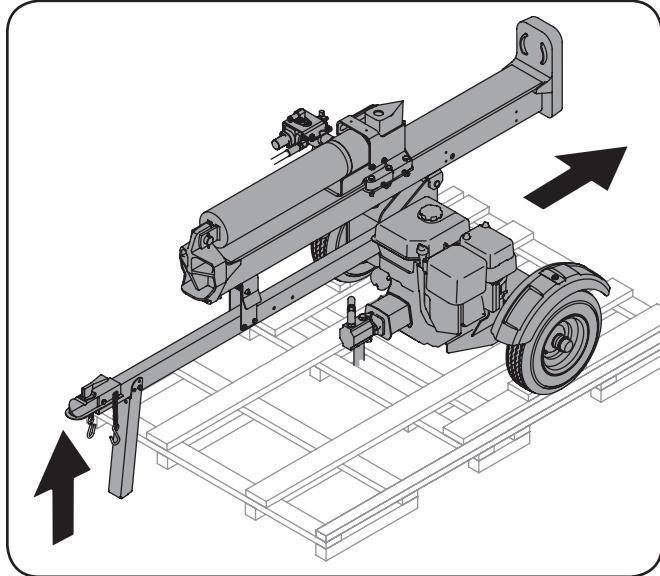

Figure 4-7
- Carefully move the log splitter off of the crate by lifting up on the tongue tube, near the hitch coupling, and slowly pushing the machine backwards — over the two rear wheel chucks — and off the back of the crate base. See Figure 4-7.